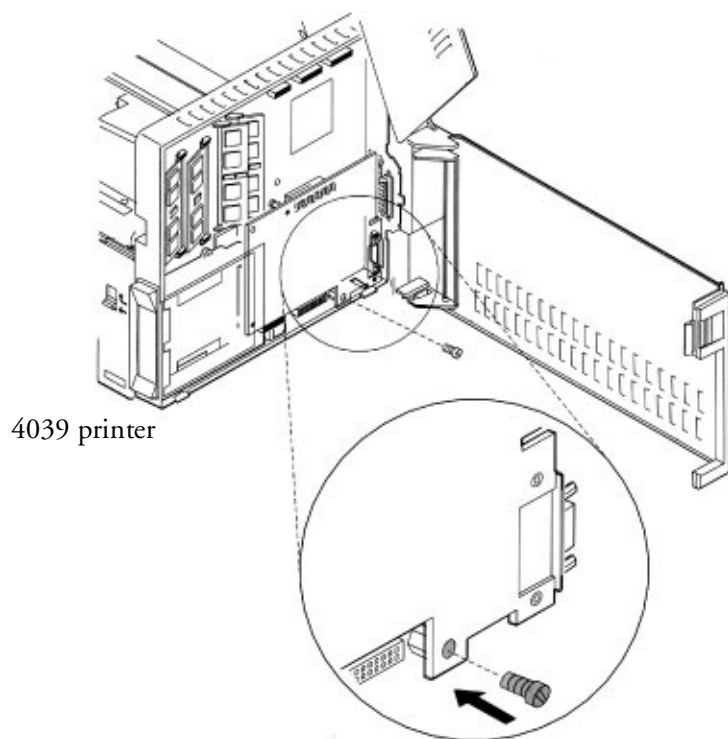

Figure 15. 4039 printer.
7. Mount the Screw from the AFP IOP delivery into the the hole on the lower part of the AFP IOP board. See figures 15 (4039) and 16 (Optra).